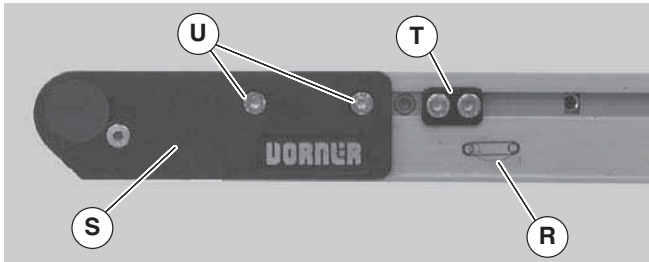

Figure 21
6. On tension end of the conveyor, identified with a  label (Figure 21, item R), push in head plate assembly (S): On both sides of conveyor, loosen and move cam tracking assemblies (T) (if equipped) away from head plates, then loosen fastening screws (U) and push head plate assembly inward.